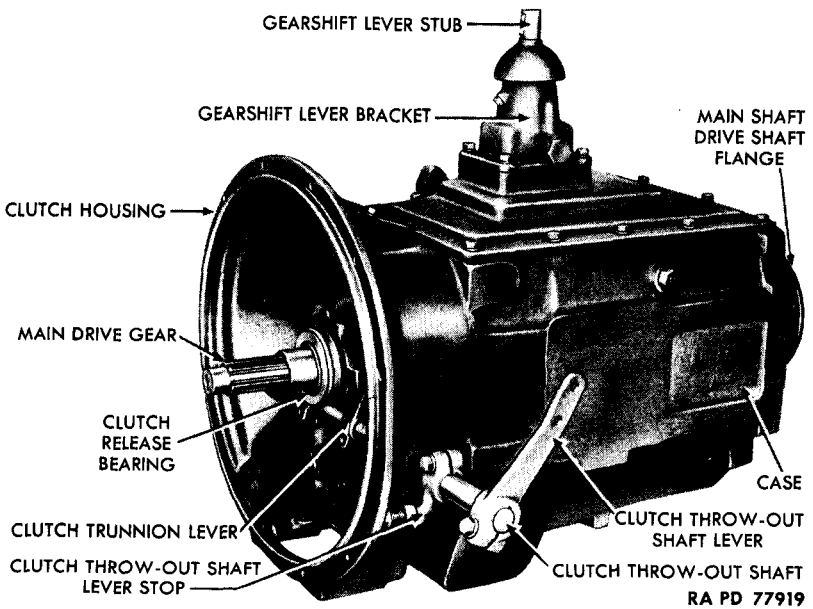

Figure 52 – Transmission
f. Disconnect Transmission Gearshift Lever (fig. 20). Loosen the nut and bolt which clamp lever to gearshift lever stub. Pry lever from stub (fig. 52), and remove Woodruff key from stub.
g. Disconnect Clutch Control Rod From Clutch Throw-out Shaft (fig. 52) (par. 60).